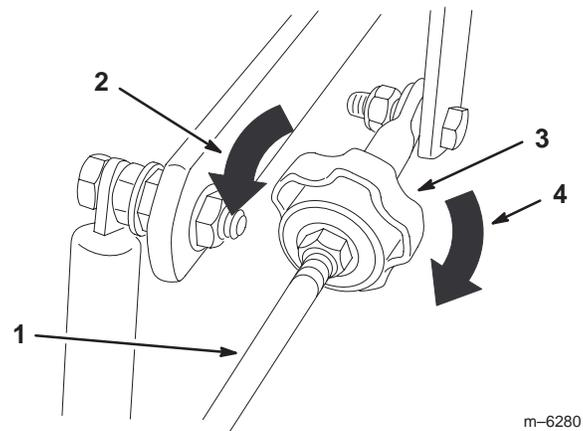

Figure 47
- To make the machine go right, turn the knob towards the rightside of the machine. Refer to figure 47.
- To make the machine go left, turn the knob towards the leftside of the machine. Refer to figure 47.